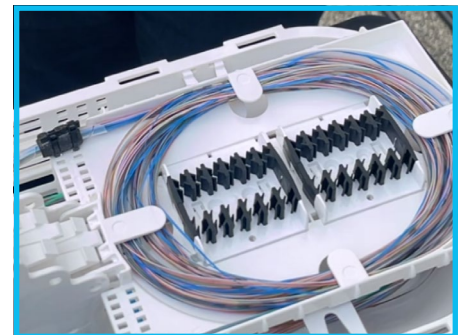

Figure 11.7
8. Route the fibre in the tray as shown in figure 11.7.